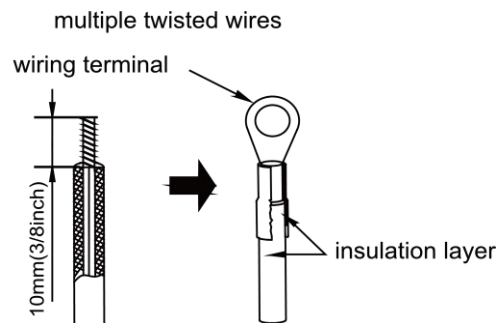

Fig 5.1.2
(2) Stranded wire connection (as shown in Fig. 5.1.2)